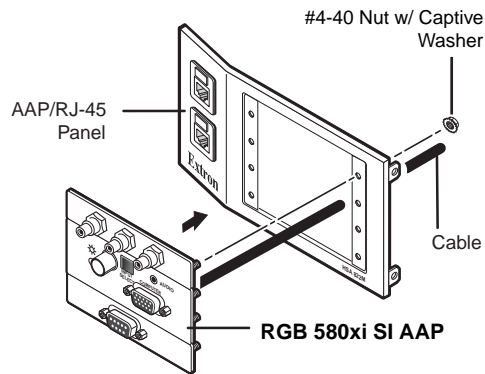

Figure 2-5 — Mounting an AAP on the AAP/RJ-45 panel
3. Insert each of the AAP's screws through the holes in the AAP opening of the HSA AAP/RJ-45 panel. Secure each AAP to the panel with the provided captive washers and #4-40 nuts (figure 2-5).